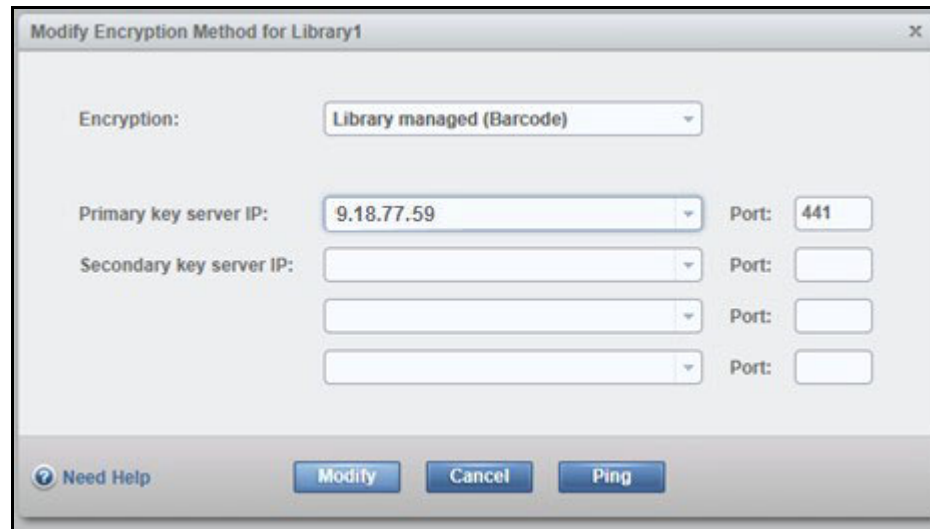

Figure 3-5 Modify Encryption Method for Library window
2. In the Modify Encryption Method menu, select **Library Managed (Barcode)** and at least one key server to use with this LL. Click **Modify** to save the settings, as shown in Figure 3-5.